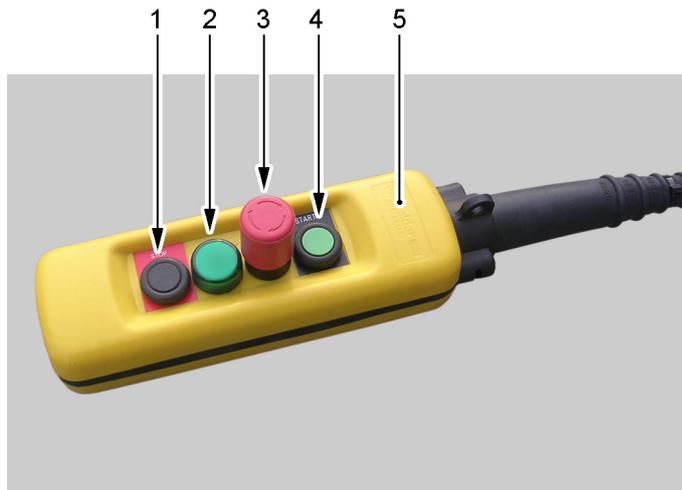

Figure 6.43 - Remote control
- 2) Press the heating cycle start "START" pushbutton (see Figure 6.43/4), situated on the remote control (5). The heating in progress "START" warning light (2) lights up, in order to confirm that the heating cycle has been started.